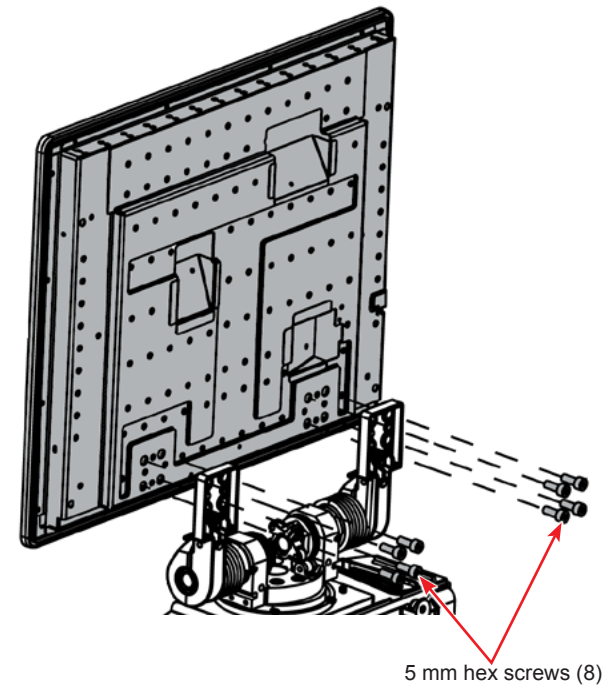

Figure 3-43 Display Removal
- 37.6 Remove eight 5 mm hex screws securing Display Assembly to console (see Figure 3-43). **NOTE: Hinge covers will come off when display is removed.**